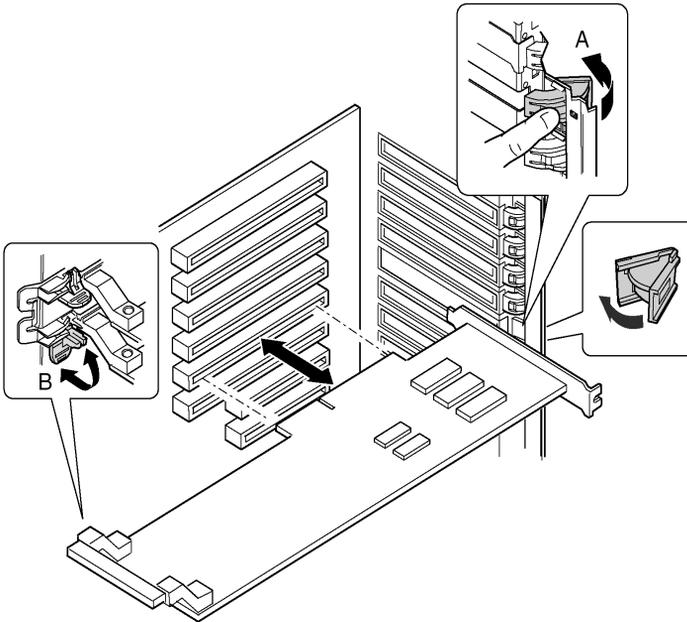

Figure 38 - Installing and removing a non-hot-plug PCI add-in board
- 6 Open the latches on the front and rear retention mechanisms (Figure 38, A and B).